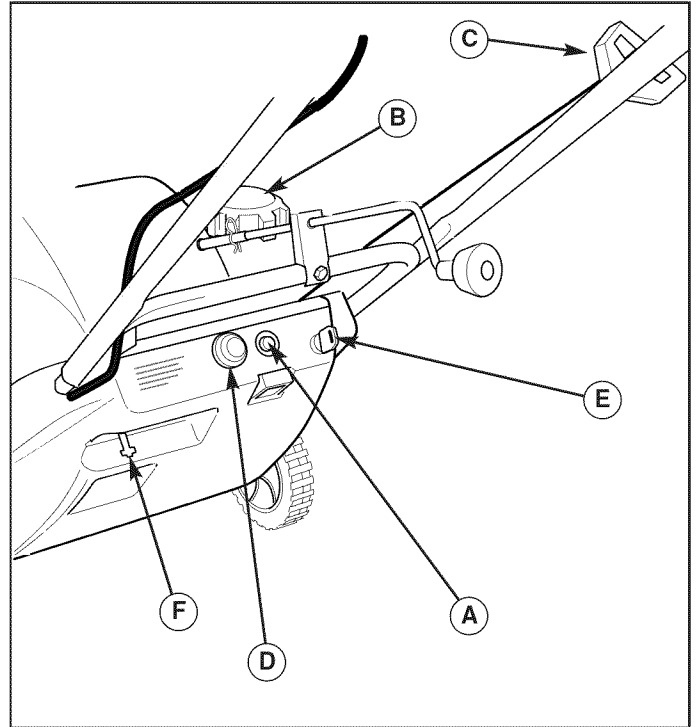

Figure 6. Engine Controls
**A. Electric Start Button** - The Electric Start Button (A, Figure 6) activates an electric starter mounted to the engine, eliminating the need to pull the starter handle. The Electric Start Button operates on 120 Volts AC, which is provided by connection to the extension cord provided with units equipped with this feature. **Connect this extension cord ONLY to a properly grounded 3 prong electrical outlet.**
- C. Starter Handle** - The starter handle (C, Figure 6) connects to a starter cord to manually start the engine. Pulling starter handle rapidly spins the engine crankshaft, cycles the engine, and generates the spark necessary for starting the engine.
- D. Primer Button** - When pressed, the Primer Button (D, Figure 6) provides initial fuel to help start a cold engine. Normally, pressing the primer button twice will provide enough fuel to start a cold engine.
- F. Choke Control** - The is control (F, Figure 6) adjusts the fuel/air mixture, and is used to help start a cold engine by providing a richer mixture. Once the engine is warm and running smoothly, the Choke Control should be set to the off position to provide a normal air/fuel mix.